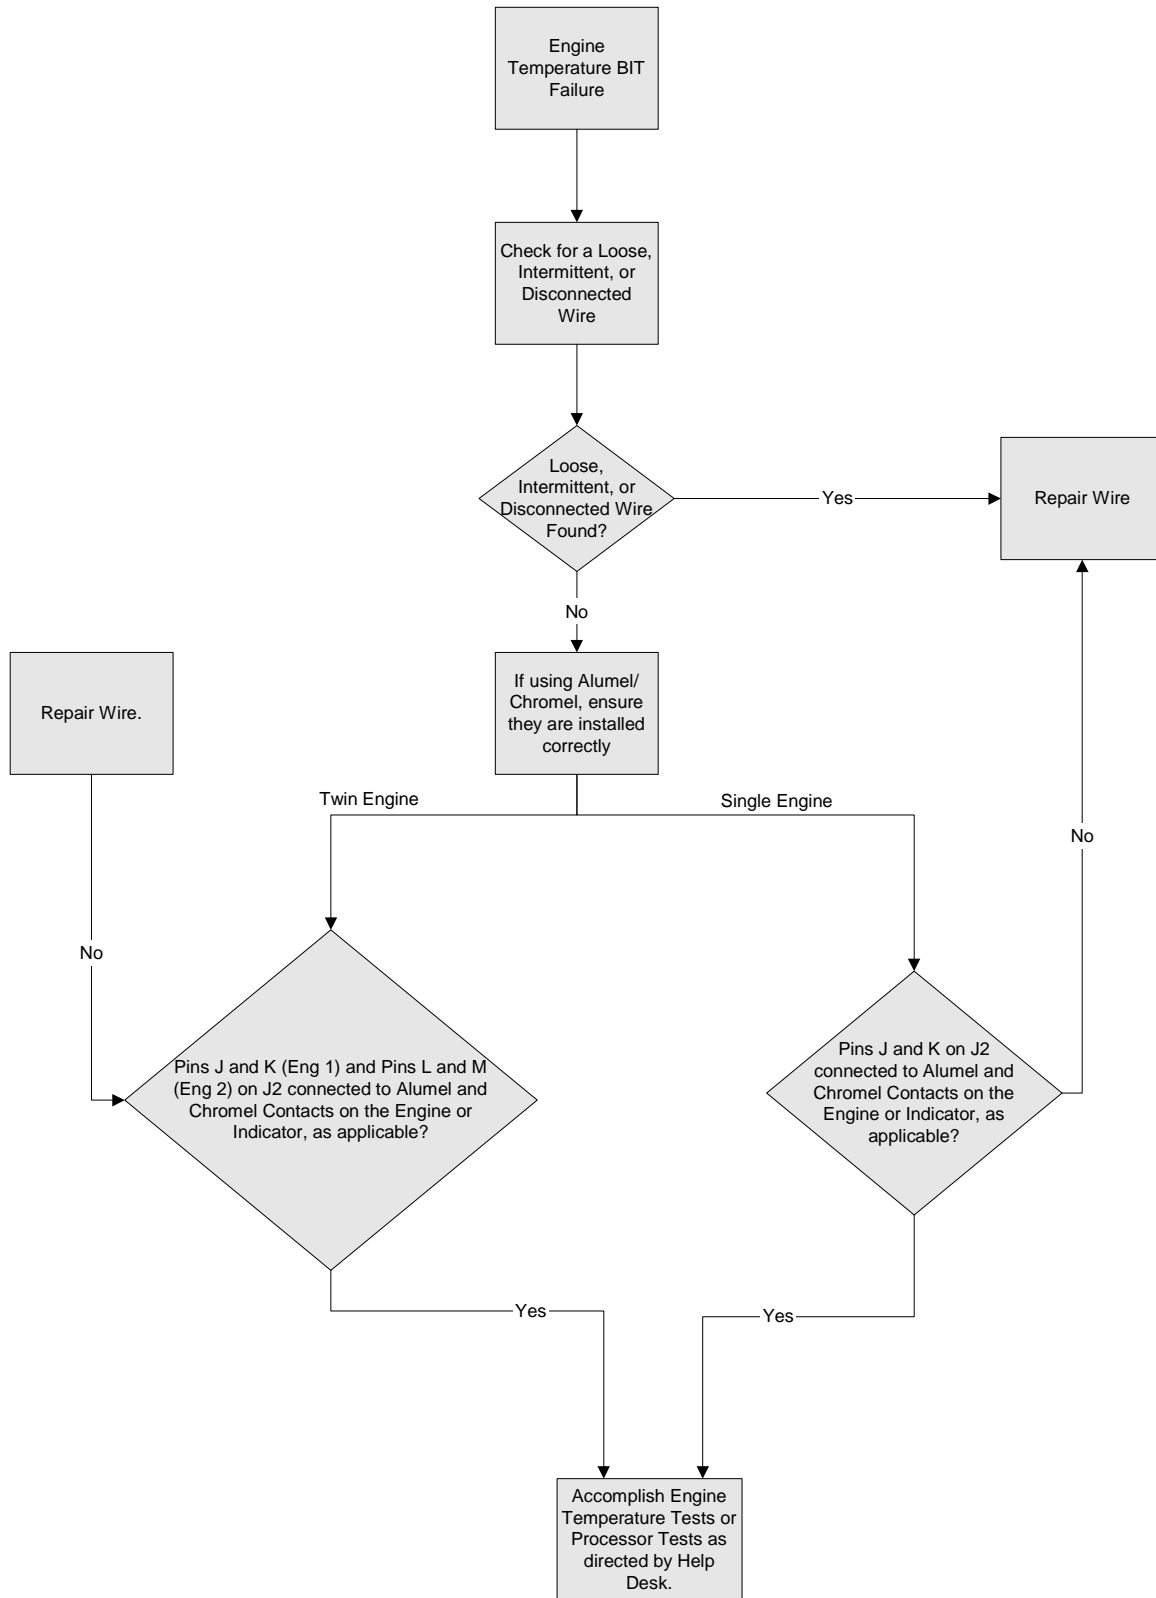

Figure 28: Engine Temperature BIT Failure Troubleshooting
- a. Temperature Bit Failure – Refer to Figure 28.